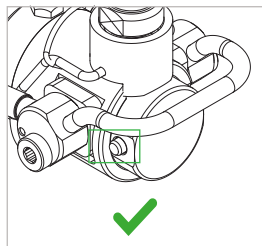

Figure 10
**Attention:** The safety peg (Pos. 5) at the connector must be extended after pressure is applied (Figure 10). The actuation is blocked, the connector cannot be disconnected when it is pressurized.